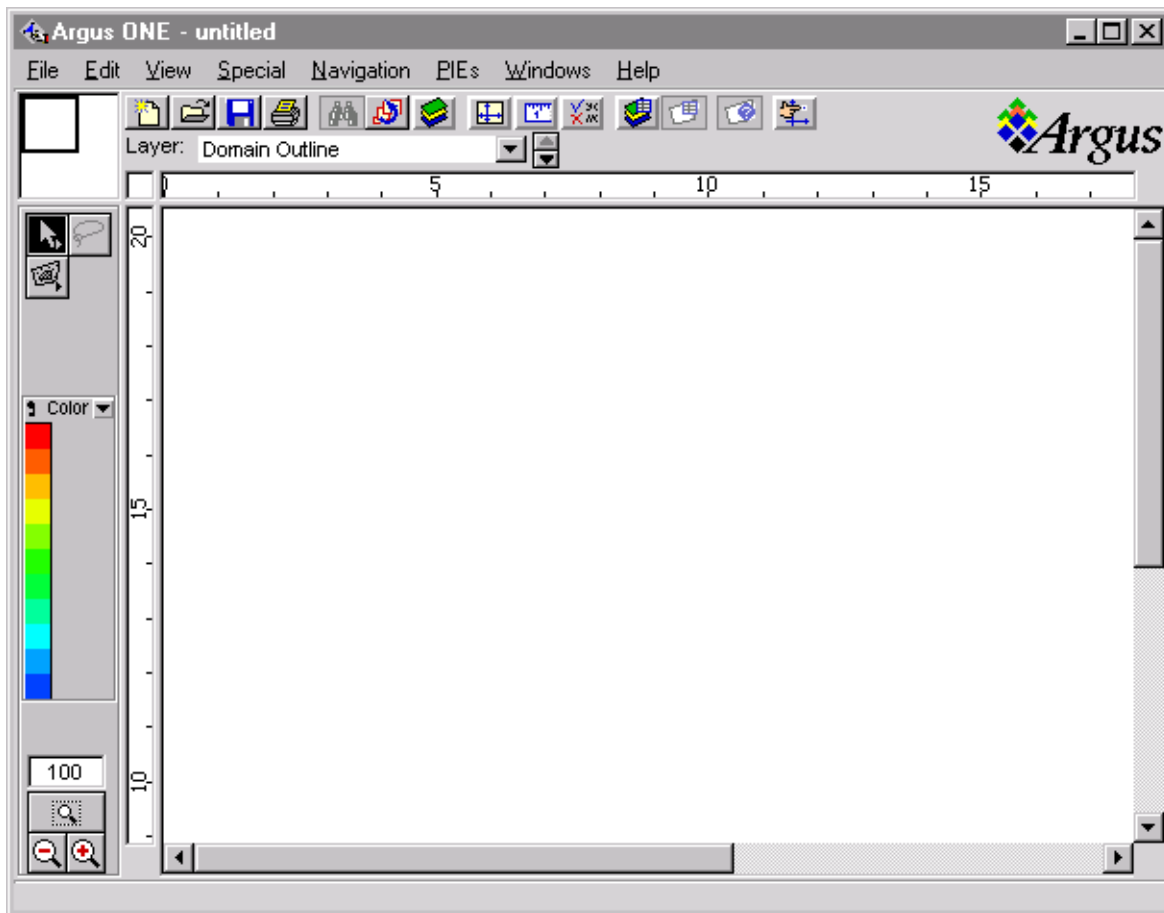

Figure 18. Argus ONE Window
Following exit from the *SUTRA Non-Spatial Information dialog*, described previously, the standard *Argus ONE window* appears (Figure 18). This window contains many controls for the user environment, and these are all described in the Argus ONE documentation. Only controls that are specifically related to use of the interface for SUTRA simulations are described in this document.
- **Show&Hide** or **Hide Others** in the **View Menu** found along the top of the *Argus ONE window* (see Figure 18) may be used to control visibility.